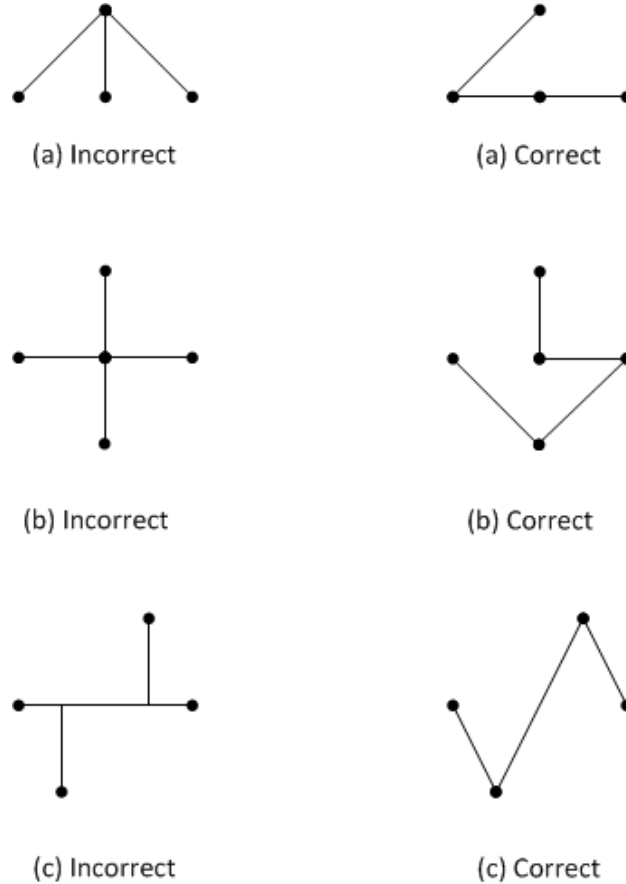

Figure 7.3
- Star or T Modbus (RS-485) network topologies should always be avoided. See Figure 7.3.